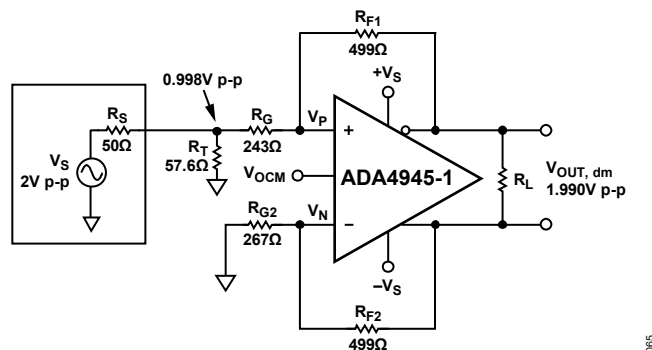

Figure 109. Terminated Single-Ended-to-Differential System with $G=1$
- The modified gain resistor, R_{G1} , changes the input impedance. Repeat Step 1 through Step 4 several times using the modified value of R_{G1} from the previous iteration until the value of R_T does not change from the previous iteration. After three additional iterations, the change in R_{G1} is less than 0.1%. The final circuit is shown in Figure 109 with the closest 1% resistor values.